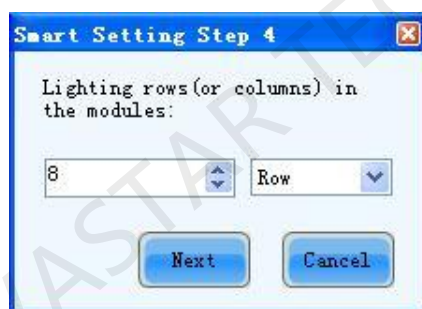

Fig. 7-8 Smart Setting Step 4
- 6) Click "Next" in "Smart Setting Step 3" page after selection to enter "Smart Setting Step 4" page as shown in Fig. 7-8, Enter the number of LED rows that are lightened in a module.